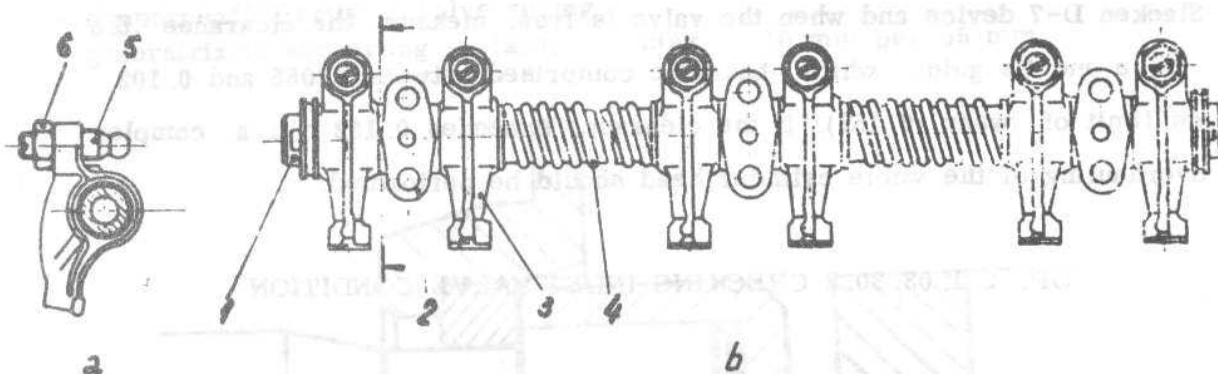

Fig. 4.49. ROCKER ARM SHAFT (Assy)
- In case it should be necessary to remove both plugs from ends of shaft, bore a holethrough one plug, introduce a rod through the hole and thrust plug from the other end. Introduce rod in the latter and thrust out remains of the first plug (see Fig. 4.49).
- Introduce a split pin at one end of shaft, fit on a washer, a spring washer and again a washer. Mount the rocker arms, supports and spacer springs in the order shown in Fig. 4.49.